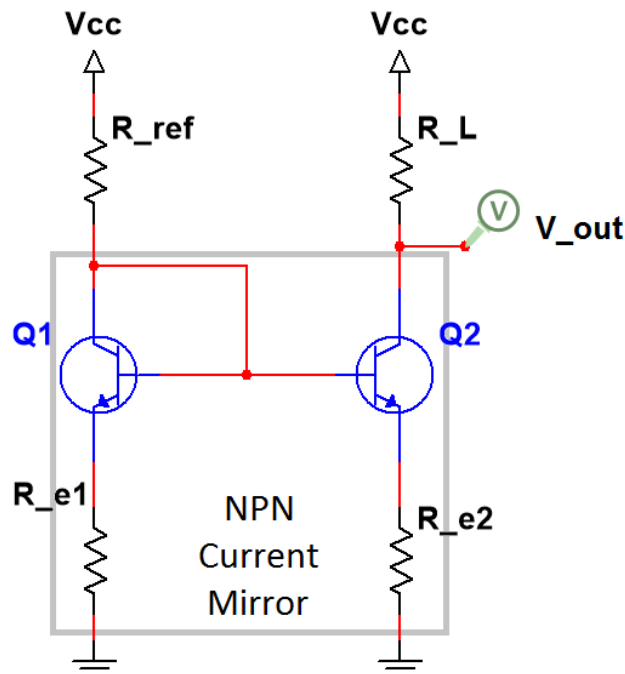

Figure 13: The Current Mirror and Test Circuit
An NPN current mirror with emitter degeneration resistors is shown in Figure 13. The emitter resistors, R_{e1} and R_{e2} , reduce the effect that mismatches in V_{BE} between the two discrete transistors have on the matching of the output current to the reference current. These resistors can also be conveniently used to alter the ratio between the two currents. Different permutations of this circuit exist which allow the mirror to operate at a wider output voltage range, or increase output impedance.
- Given the circuit in Figure 13, derive an equation for the output current (I_{out}) in terms of I_{REF} , V_{BE1} , V_{BE2} , β_1 , β_2 , R_{E1} , R_{E2} and V_{CC} .
Optionally, you may construct the NPN current mirror as shown in Figure 13. Test the circuit with a parameter sweep. The maximum and minimum loads must be the maximum and minimum loads picked out in the prelab. Measure the output voltage (V_{out}), and calculate the current flowing through the load resistor.